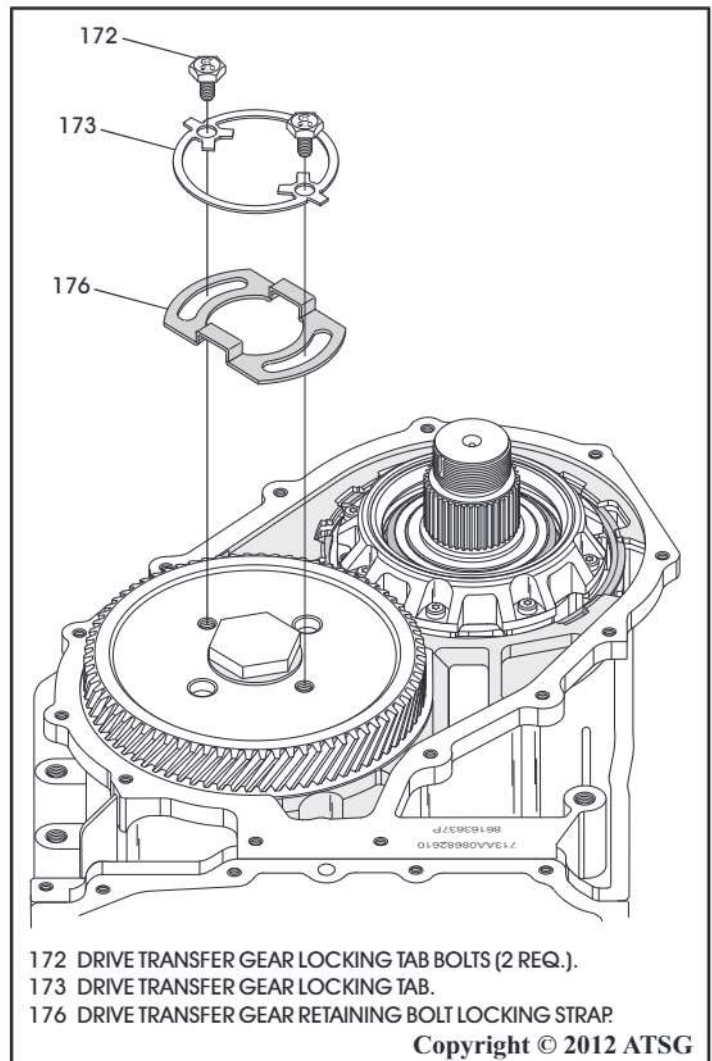

Figure 235
12. Install drive transfer gear retaining bolt locking strap, as shown in Figure 235.
13. Install drive transfer gear locking tab, as shown in Figure 235.